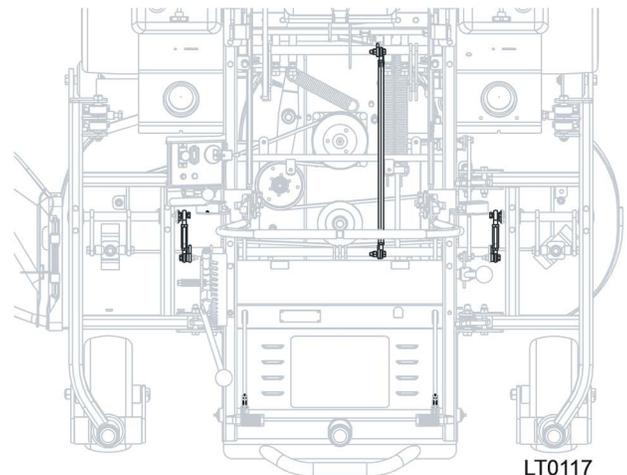

**FIG. 3-10**
6. Starting with the center deck, measure from the bottom of the pan to the floor across the front and rear of the deck at points near the hinge pins. See Figure 3-10.